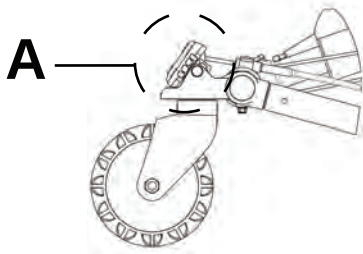

Figure 11 – Wheel lock on
To apply a wheel lock (A), press the red pedal down and away from the middle of the cot X-frame (Figure 11).